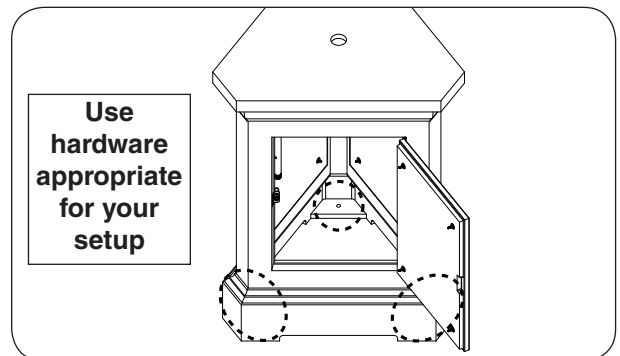

Fig. 27-2 Mount pedestal
2. Using appropriate mounting hardware for the floor material/construction, secure the pedestal into the floor. The interior of the base has three  $1/2$ " holes that will allow for the pedestal to be fastened to the floor. See Fig. 27-2.